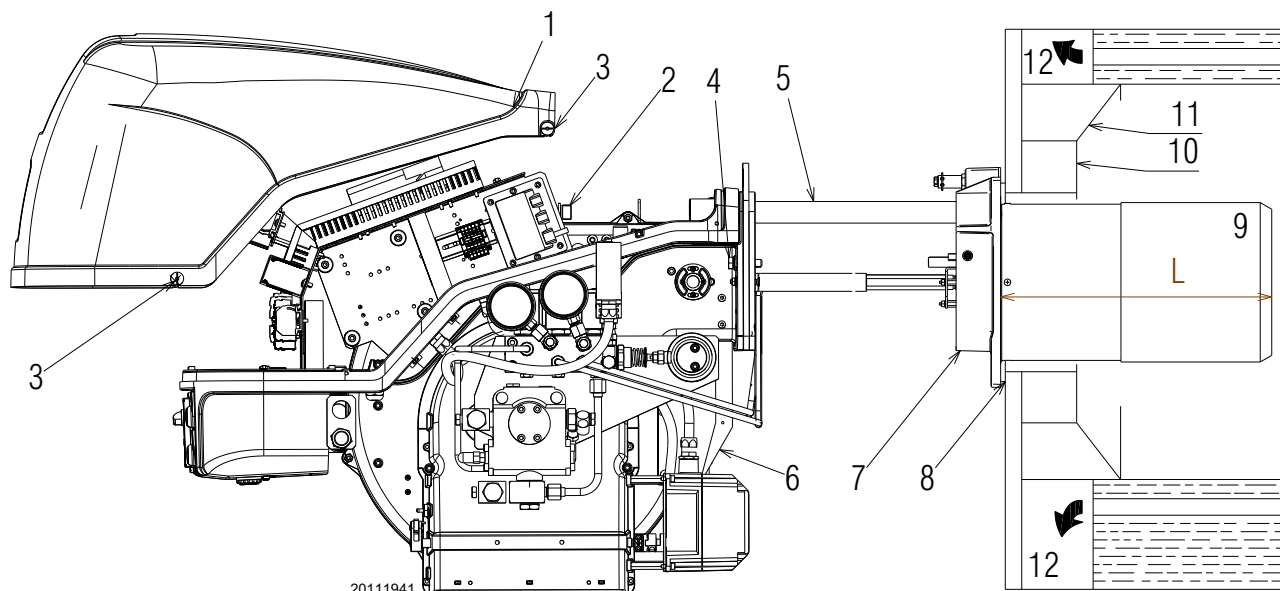

Fig. 14
For boilers with front flue passes 12)(Fig. 14) or flame inversion chambers, protective insulation material 10) must be inserted between the boiler refractory 11) and the blast tube 9).
This protective insulation must not compromise the extraction of the blast tube (Fig. 14).
For boilers having a water-cooled front the insulation 10)-11)(Fig. 14) is not required unless it is required by the boiler manufacturer.
Disassemble the blast tube 9) from the burner 6) by proceeding as follows (Fig. 14):
- pull back the burner on its slide bars as shown in Fig. 14 at page 17.